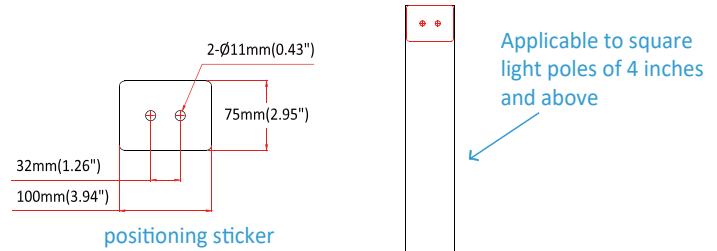

Fig. 5
2. Take out the positioning sticker from the box, attach it to the appropriate place on the light pole, and use the tool to drill the hole, see Fig. 5.